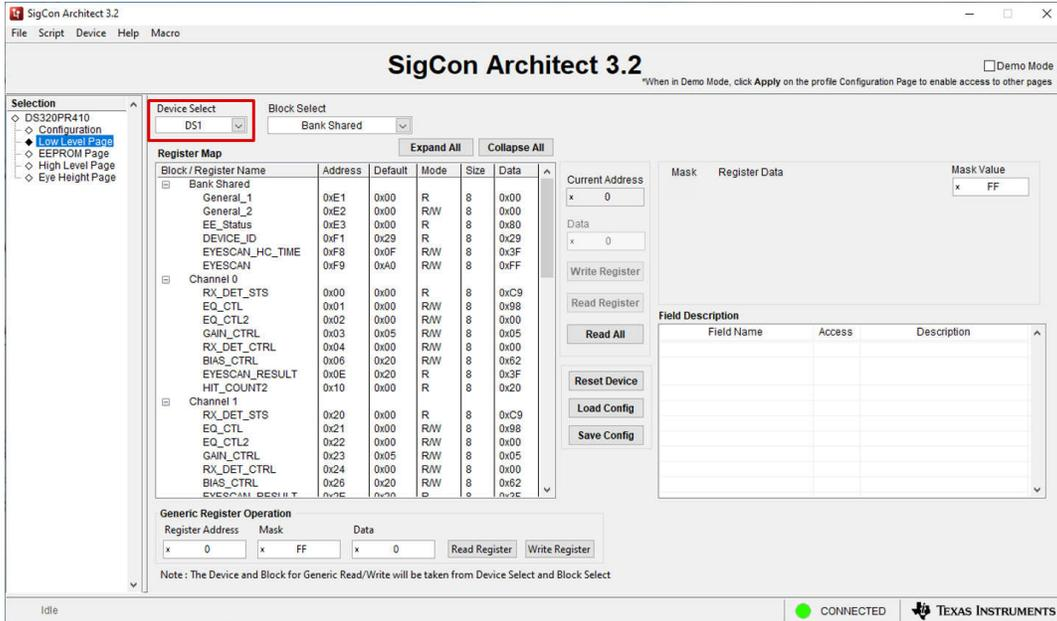

Figure 3-1. Low Level Page: Device Select Drop-Down
1. Use the *Device Select* drop-down menu shown in Figure 3-1 to select which device is desired to read or write to. The DS320PR410-RSC-EVM includes four downstream and four upstream devices.